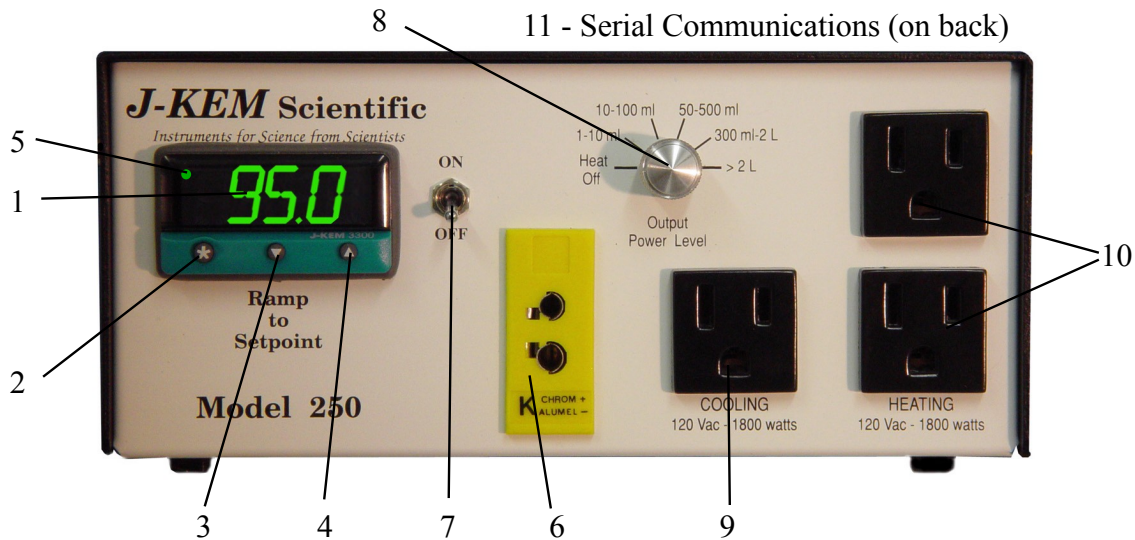

Figure 1
3.5 Temperature Sensor Input. Every controller is fitted with a specific *type* of thermocouple input and can only be used with a thermocouple of the same type. For the correct temperature to be displayed, the thermocouple type must match the receptacle type on the front of the controller (Figure 1; # 6). All thermocouples are color coded to show their type (Blue = type T; Yellow = type K; Black = type J). The color of the thermocouple plug must match the color of the receptacle on the front of the controller. If the thermocouple is broken or becomes unplugged, the error message "inPt" "FAIL" blinks in the temperature meter display and the controller stops heating.